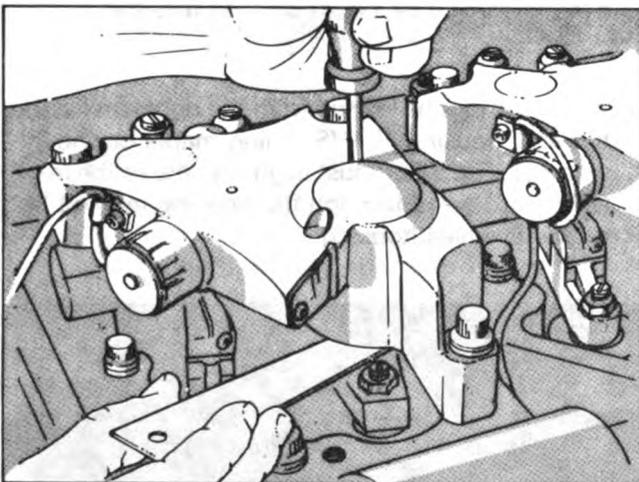

Fig. 2-55, (OM1063L). Adjusting crosshead to slave piston clearance
9. If Jacobs Brake is used, use 3375012 (0.018 inch [0.46 mm] thick) Feeler Gauge and 3375008 Torque Wrench Adapter, set the exhaust valve crosshead to Jacobs Brake slave piston clearance. Fig. 2-55.